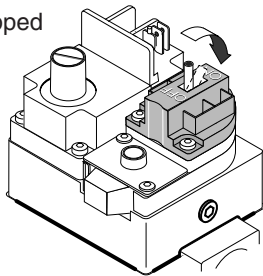

Figure 3-1:
6. Turn the Gas Control Knob clockwise to the red line, press slightly, then turn to the OFF position. On newer models, throw the ON-OFF toggle to OFF. (See Figure 3-1).